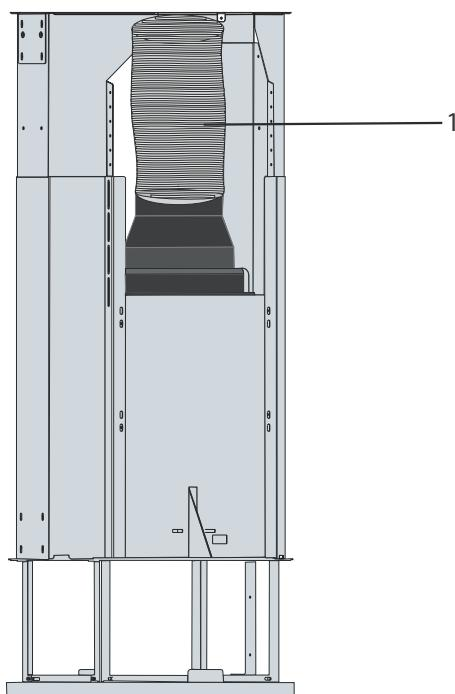

Fig. 15
- 4.** Connect one end of the aluminium pipe you will get to the plastic funnel of the product and the other end to the kitchen funnel. Check that these two connections are tight enough that they won't come out when the hood runs full speed (Fig. 15).